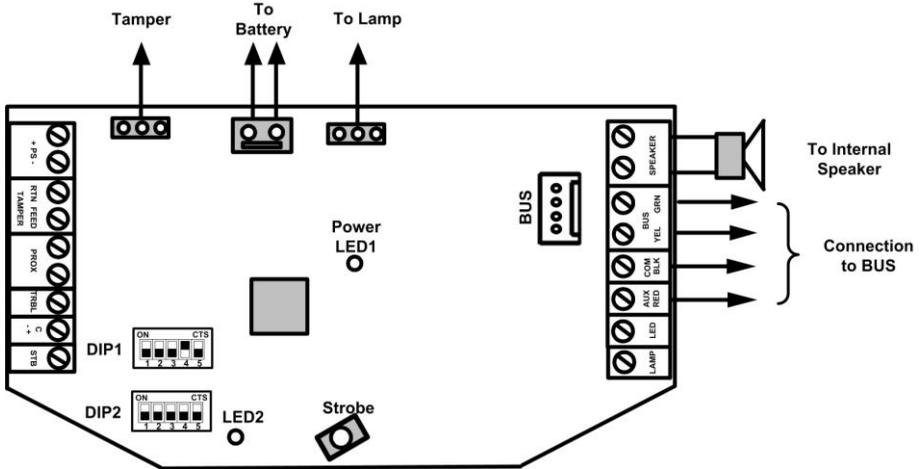

Figure 3-13: ProSound Bus Wiring
1. Connect the siren according to Figure 3-13.